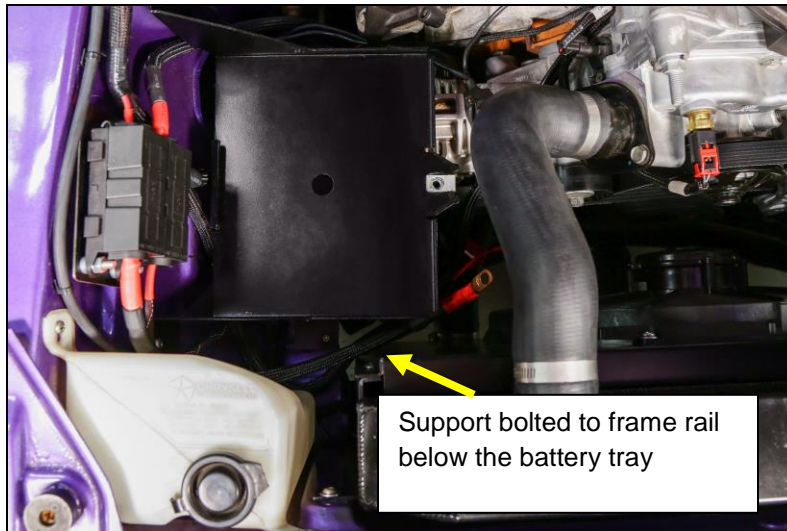

Figure 2
6. Drill through the flange of the frame rail using the 1/4" drill bit and install a 1/4" bolt through both supports and secure using the supplied flange nuts (**Figure 2**).